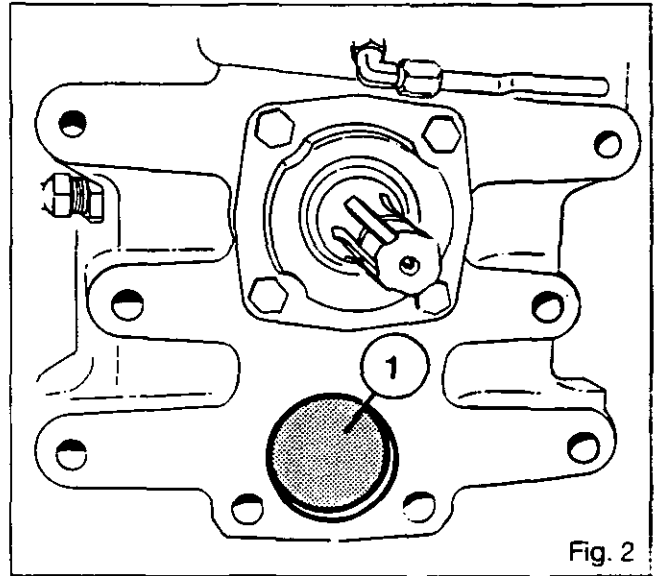
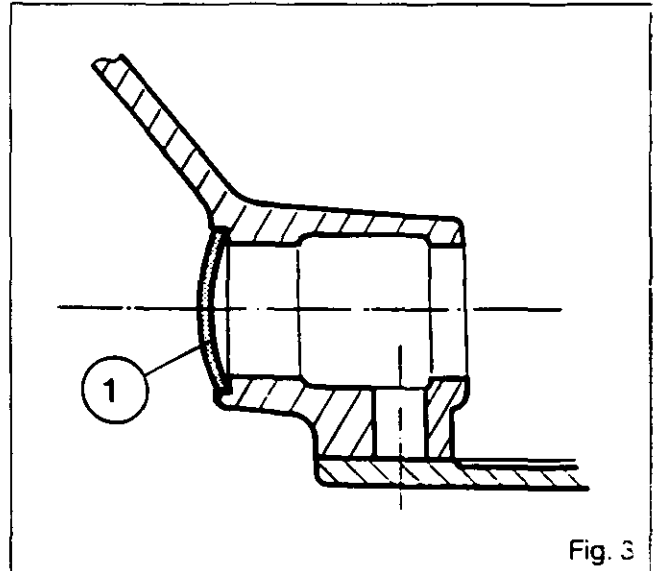

Fig. 2
Fig. 3
4. Extract rear plug (1)(Fig.2).
5. Remove bolts (11) and cover (12).
6. Extract plug (1) (Fig.3).